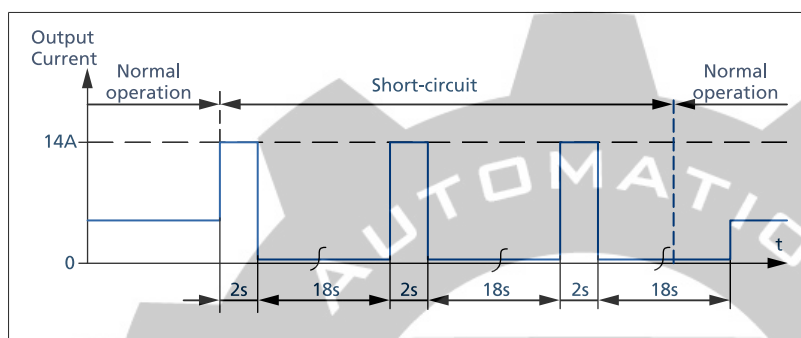

Fig. 6-3: Short-circuit on output, Hiccup^{PLUS} mode, typ.
- 3) At heavy overloads (when output voltage falls below 13V), the power supply delivers continuous output current for 2s. After this, the output is switched off for approx. 18s before a new start attempt is automatically performed. This cycle is repeated as long as the overload exists. If the overload has been cleared, the device will operate normally. See Fig. 6-3.